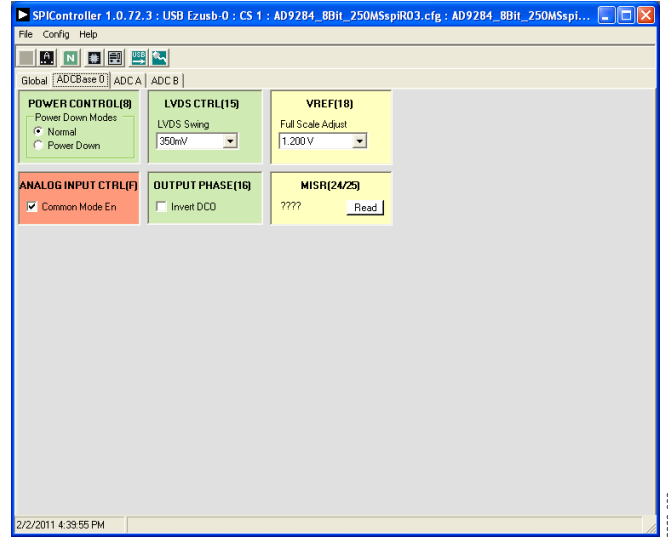
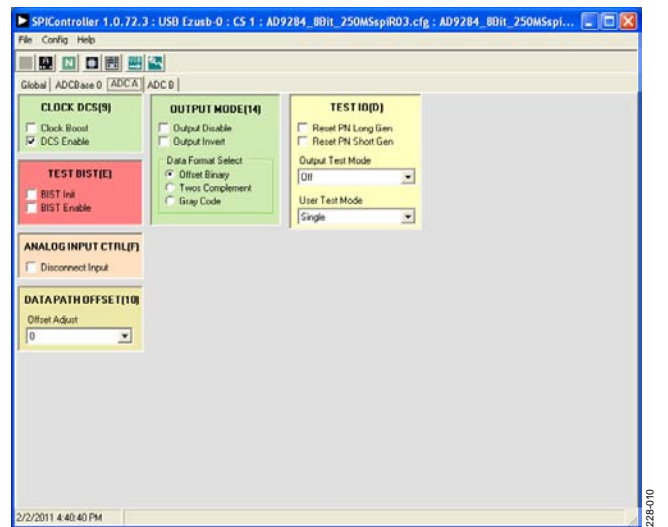

Figure 9. SPIController, ADC Base 0
Figure 10. SPIController, ADC A Page
3. In the **ADCBase 0** tab of the **SPIController** window, you can access all global register settings (see Figure 9). See the AD9284 data sheet; the AN-878 Application Note, *High Speed ADC SPI Control Software*; and the AN-877 Application Note, *Interfacing to High Speed ADCs via SPI*, for additional information.
4. Note that other settings can be changed on the **ADCBase 0** page (see Figure 9) and the **ADC A** and **ADC B** pages (see Figure 10) to set up the part in the desired mode. The **ADCBase 0** page settings affect the entire part, whereas the settings on the **ADC A** and **ADC B** pages affect the selected channel only. See the AD9284 data sheet; the AN-878 Application Note, *High Speed ADC SPI Control Software*; and the AN-877 Application Note, *Interfacing to High Speed ADCs via SPI*, for additional information on the available settings.